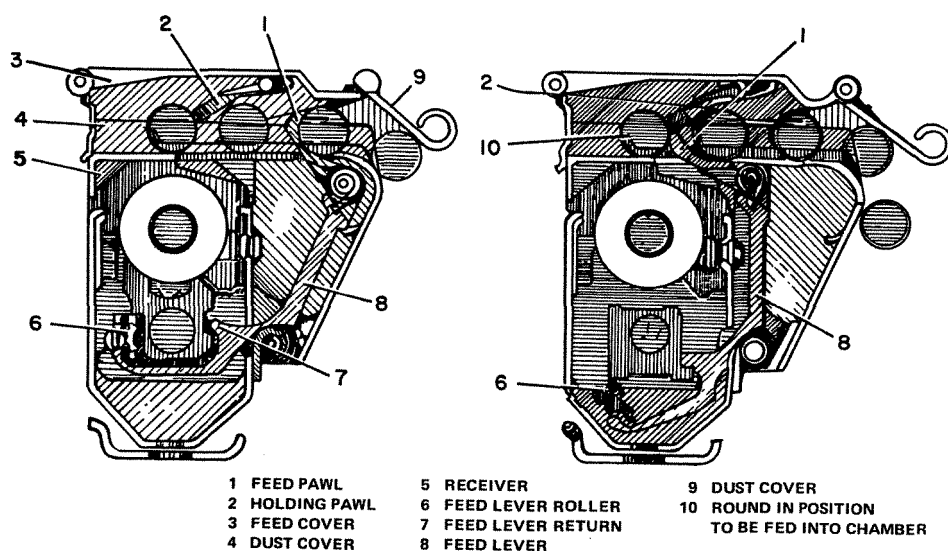

Figure 181. PK feed mechanism.
e. As the bolt carrier recoils, a cam extending along its side forces the roller on the belt feed lever outward (fig 181). This causes the lever to pivot on its pin, and the upper end of the lever with the feed pawl moves inward. This causes the cartridge